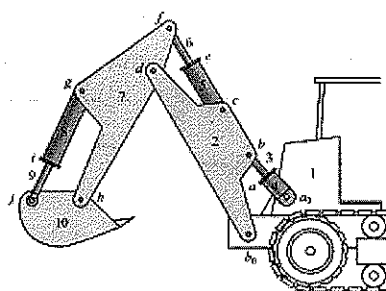

Fig. 1b
- (b) Sketch the Structural sketch of the mechanism shown in Fig. 1b, and find its degrees of freedom. (10%)